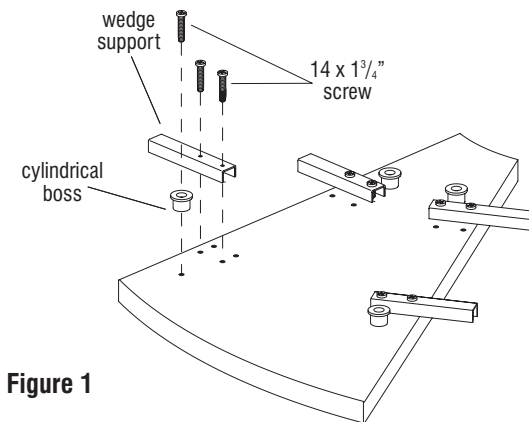

Figure 1
2. Turn the wedge upside down on a soft, protective surface. Align the four wedge supports with the pre-drilled holes and attach them to the wedge using two #14 x 1³/₄" long screws for each wedge support as shown in Figure 1. Next attach the four cylindrical bosses (ganger pegs) by aligning them with the pre-drilled holes and attaching them to the wedge using one #14 x 1³/₄" long screw for each boss (Figure 1).